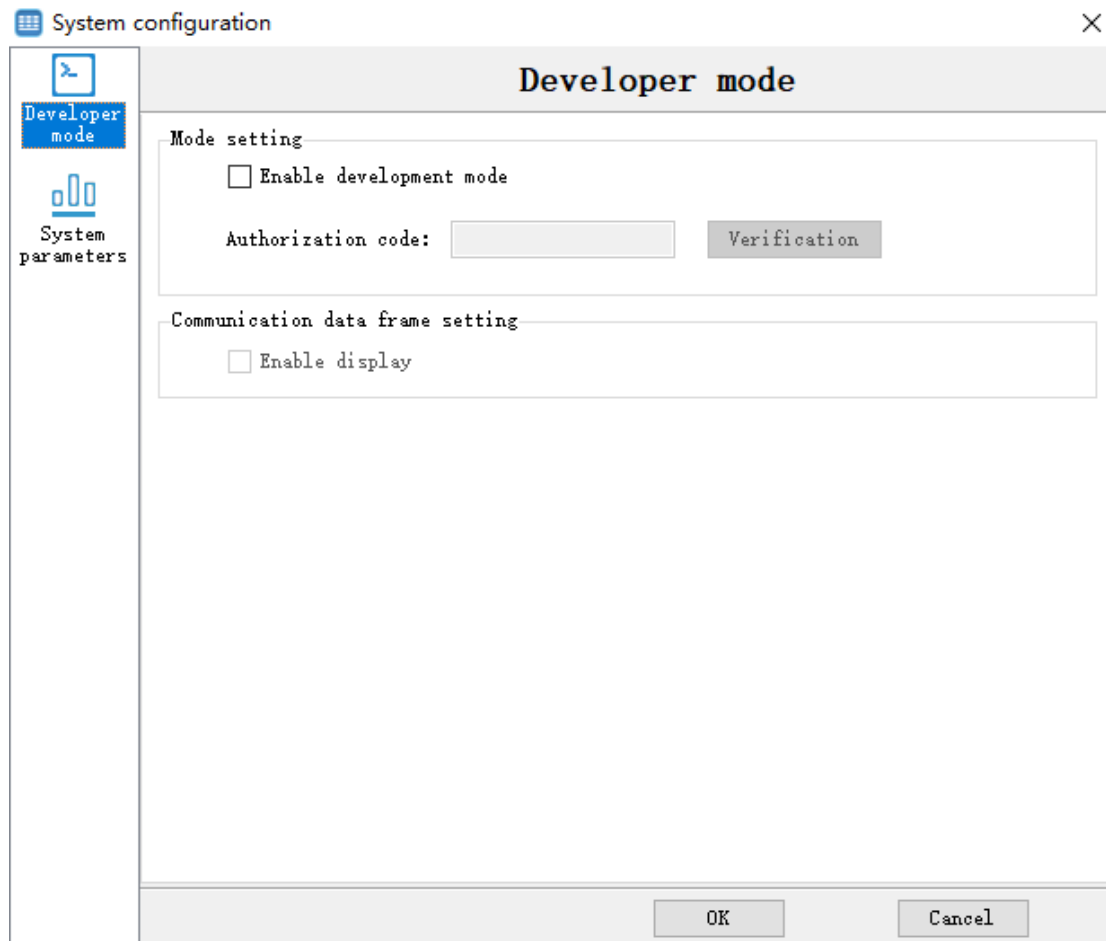

Figure 5
2. The system configuration is shown in figure 5 as below: